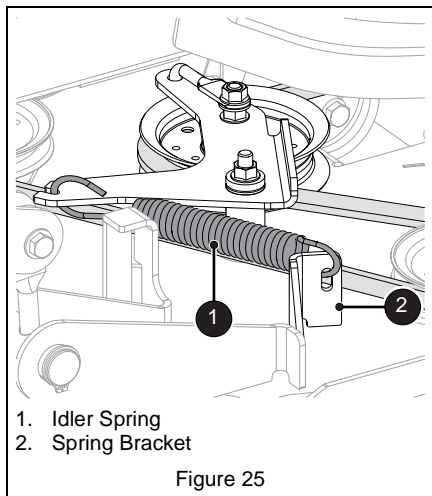

Figure 25
3. Secure idler spring to spring bracket so drive belt has tension. See Figure 25.